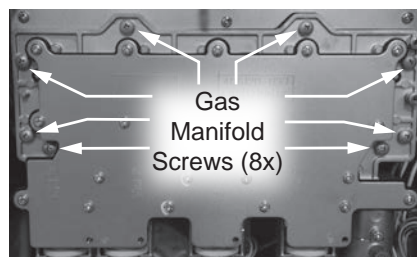

Figure 126 - Removing gas manifold screws
- 14 Locate the eight screws securing the gas manifold to the burner assembly. Remove screws and place aside in a safe place for reinstallation. See Figure 126.